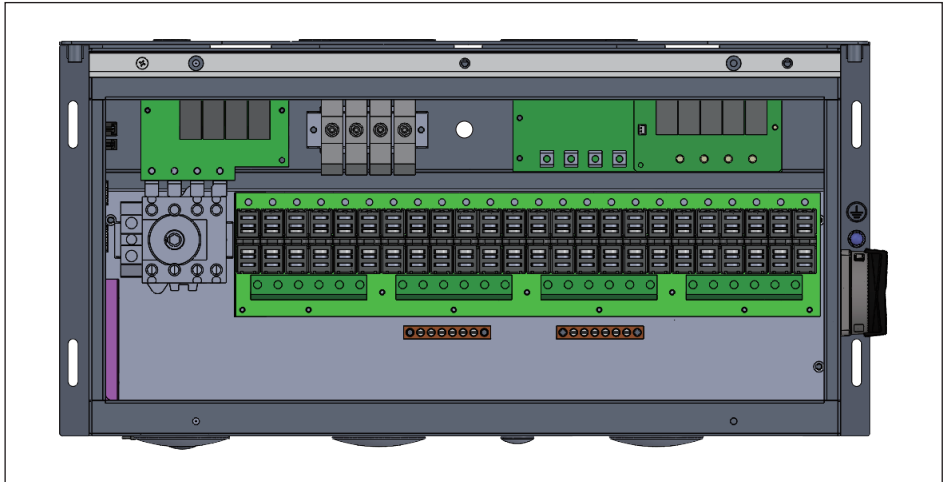
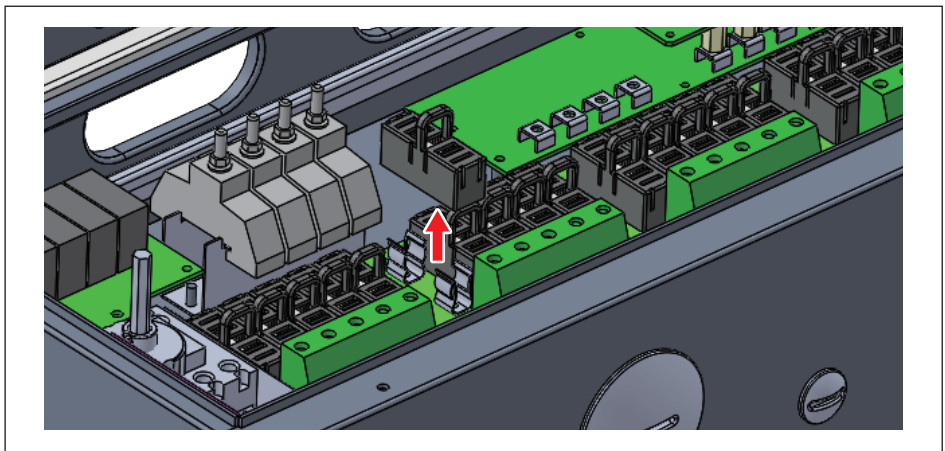

Figure 5-7: Fuse holder locations for 120/122 models
Figure 5-8: Accessing the individual fuses
The fuse holders are mounted on two separate PWBs (one/MPPT). The pull-out fuse holders allow safe removal of fuses which are inserted into a carrier. **Figure 5-7** shows the location of the combiner fuse holders, and **Figure 5-8** provides details to remove a fuse from the 120/122 WB; refer to **Figure 2-5** for additional information.
4. Based on step 1, check the corresponding fuse locations by pulling out the fuse holder (**Figure 5-8**) and checking continuity of the fuse.